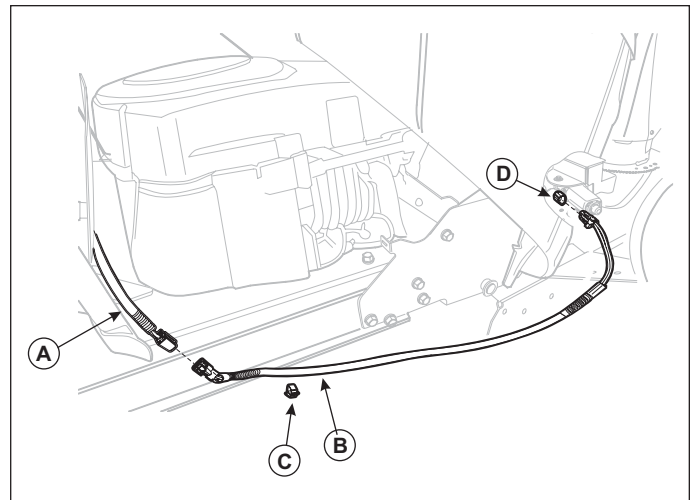
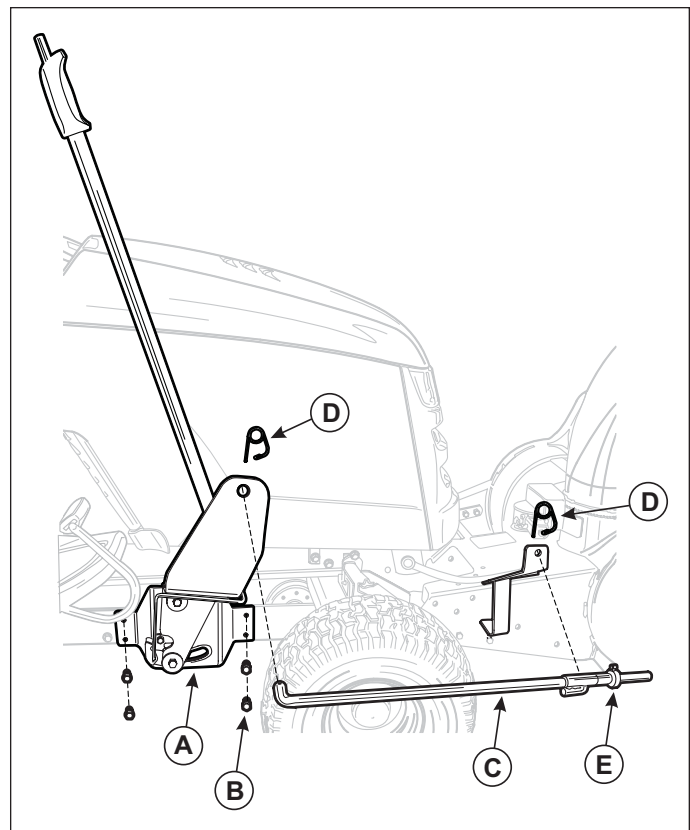

Figure 20. Wiring Harness Connections
Figure 23. Lift Arm Linkage
5. Locate the power leads (Red with yellow stripe and black) in the tractor wiring harness at the base of steering column. Connect the wiring harness power leads (B, Figure 20), color to color, to the chute rotation wiring harness spade connectors.
6. Connect the final wiring harness (B, Figure 20) to the upper wiring harness (A) using the square connector and then to the chute rotation motor connector (D). Position the wiring heat cover underneath the tractors muffler. Loosely secure the final wire harness (B) to the lift arm linkage (C, Figure 23)
6. Remove the two quick clips (D, Figure 23) securing the lift arm linkage and remove the lift arm linkage (C).